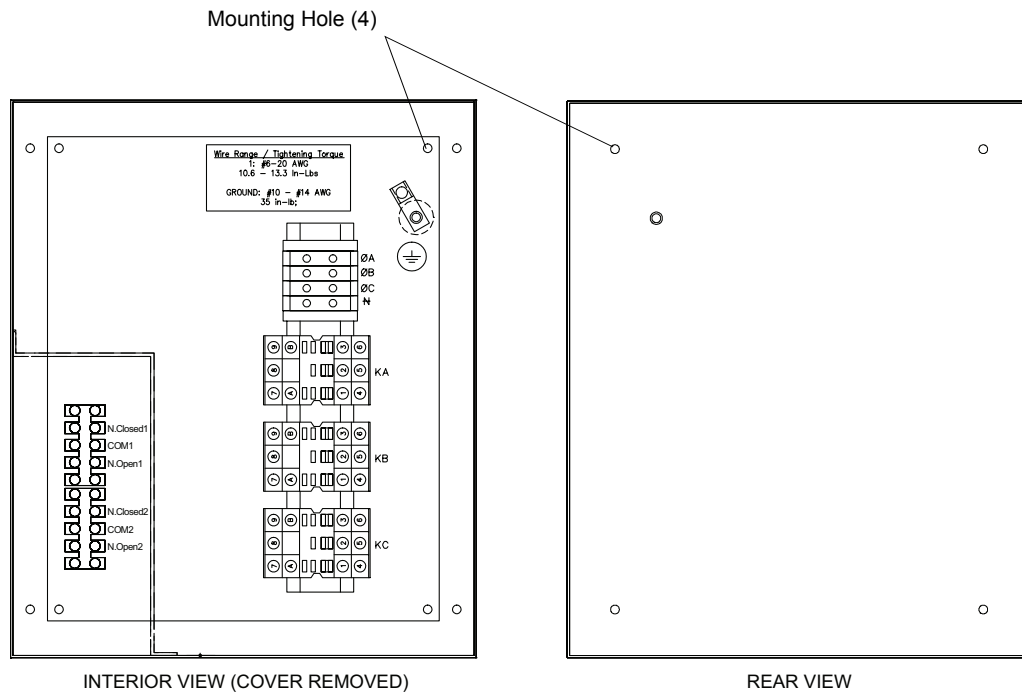

Figure 3: Mounting Holes
- Step 5. Secure Phase Loss Sense Panel to a permanent structure using suitable mounting hardware (not supplied) in accordance to local and national codes (as applicable). Refer to **Figure 3** for mounting hole locations.